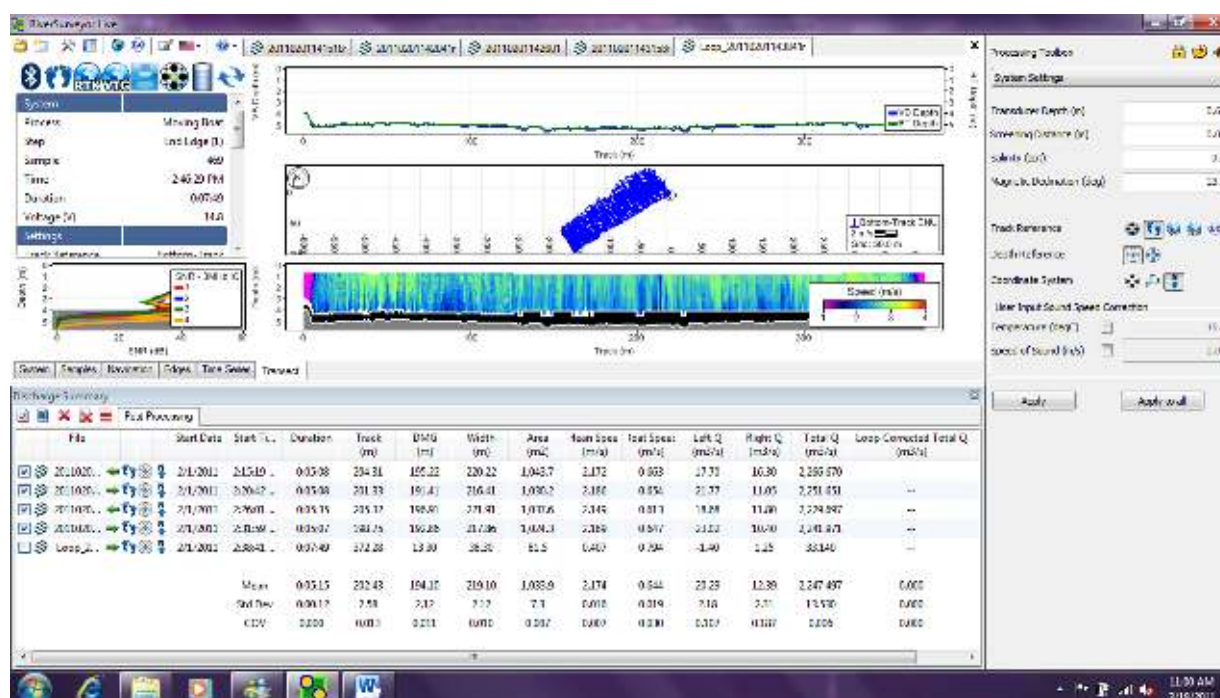

Figure 134. Loop Method Processing
5. The moving bed speed is now calculated. Prior to applying the correction, you must first open the Processing Toolbox by clicking the Tools icon (**Ctrl+T**) on the tool bar located at the top of the screen. It is also helpful to open the Discharge Summary (**Ctrl+S**) by clicking the summary icon located on the toolbar. The screen should appear as shown in Figure 134.